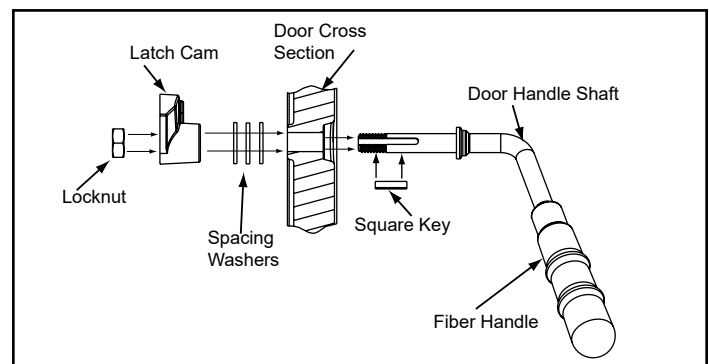

Figure 23.4
3. Install additional washer(s) as shown in **Figure 23.4**.
7. Install handle turning in a counter-clockwise motion to desired location on door handle rod (**Figure 23.4**).